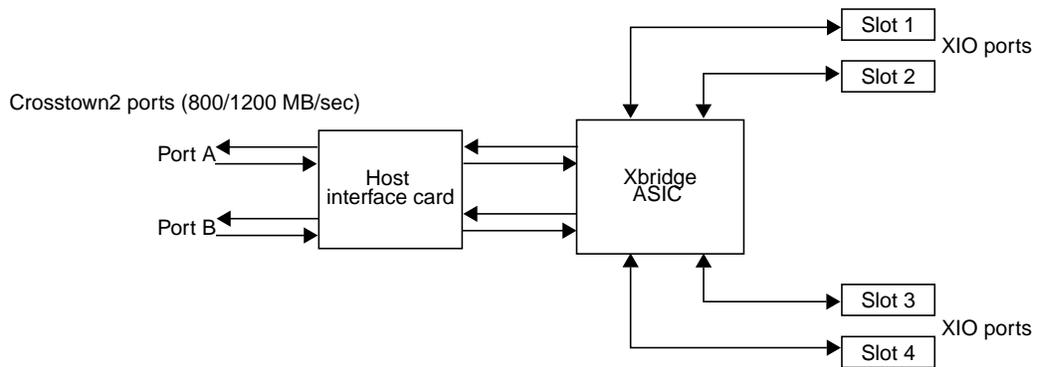

Figure 7-2 X-brick Block Diagram
- **Midplane PCA.** The X-brick midplane contains an Xbridge ASIC that is the interface between the X-brick's two Crosstown2 ports and the XIO cards (see Figure 7-2). The midplane also has receptacles for the compression connectors of the XIO cards.
The X-brick midplane contains an Xbridge ASIC that is the interface between the X-brick’s two Crosstown2 ports (XIO and the XIO cards), as shown in Figure 7-2. The midplane also has receptacles for the compression connectors of the XIO cards.
Figure 7-2 is a block diagram of the X-brick.